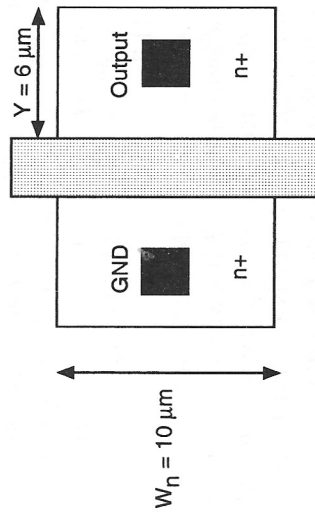

Figure P3.6
- 4.6 Consider a layout of an nMOS transistor shown in Fig. P3.6. The process parameters are